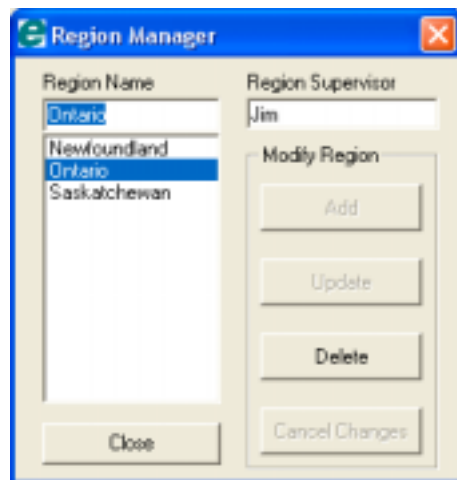

Figure 11: Region Manager Screen
- Prior to configuring a MARS Site, there must be at least one Region created. Select **DataBase Manager/Region Manager** from the **Tools** menu. Enter the ADMINISTRATOR password and press ENTER or select **OK**. When the “Region Manager” screen appears (See **Figure 11**, below), enter a region name and click **Add**. Select **Close** to exit the “Region Manager” screen.